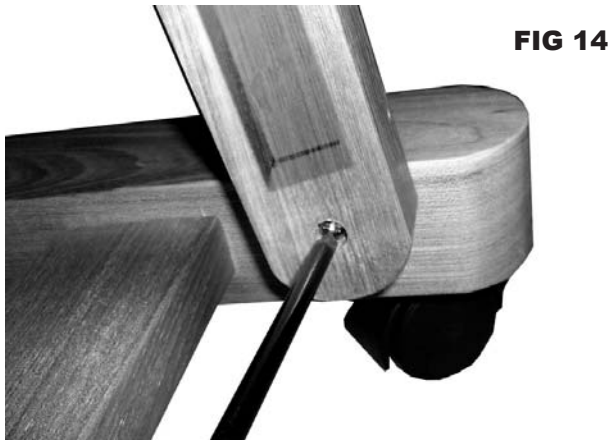

FIG 14
STEP 14. Attach Extendable Rear Legs (10&11) to base (1) and upper portion of Channelled Sides (6). Attach the wider end of the adjustable Rear legs (10) to the base by securing with one 5 X 25mm Screw. See FIG 14 for proper location. Secure with Phillips screwdriver. Repeat with other Extendable Leg.